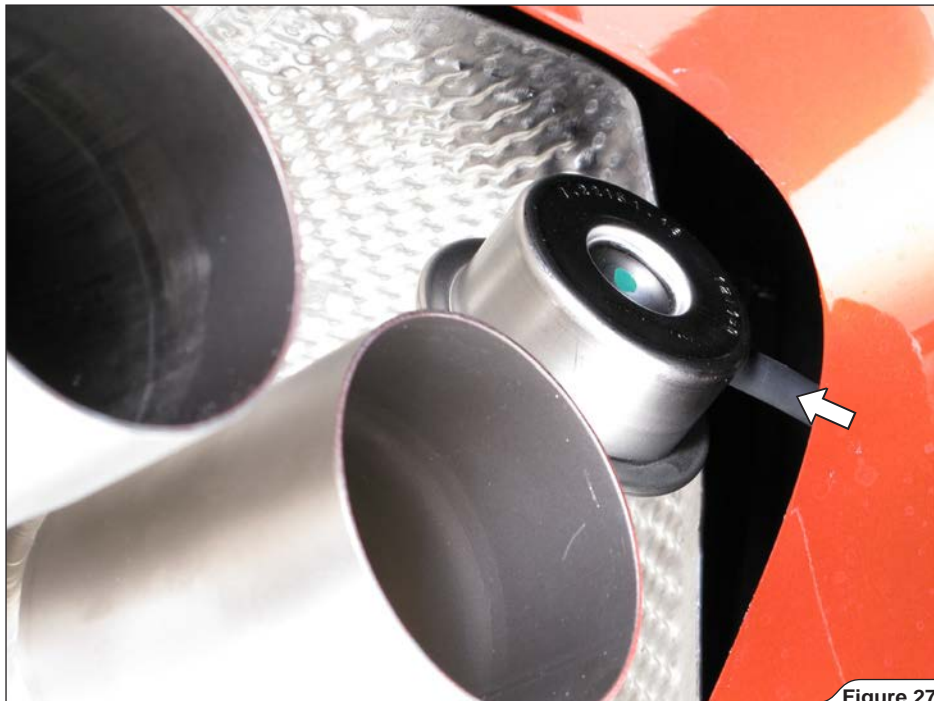

Figure 27
8. Link the stock vacuum hoses onto vacuum actuators on both mufflers (**Figure 27**).